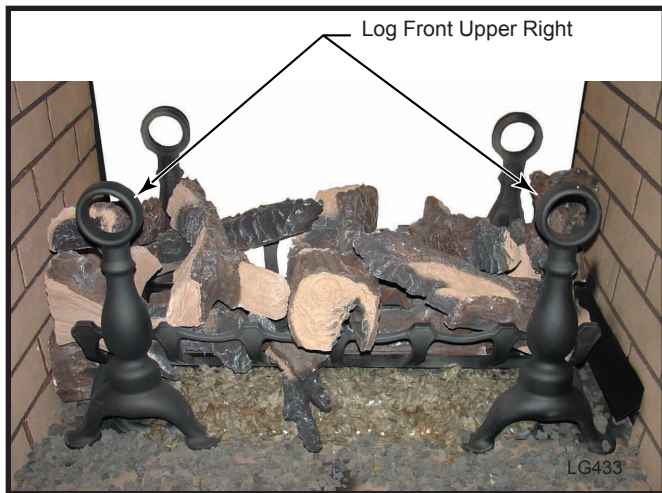

Fig. 52 Position log front upper right.
12. Position the log front upper right. (Fig. 52) Hold the log with narrow end toward you. Set the narrow end over the flat notch on the log right grate positioned in Step 10. Lay the wide end of the logs over the branch on the log left grate positioned in Step 8.